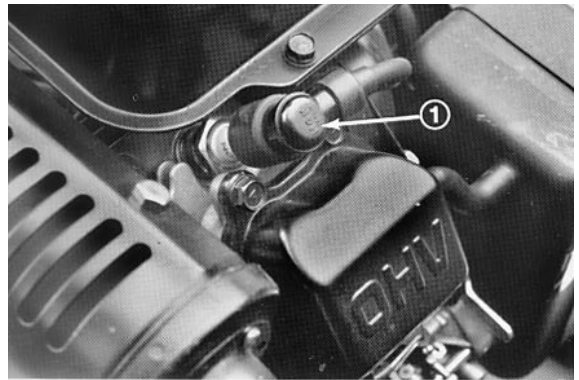

Figure 25
2. Clean around the spark plug and remove the plug from the cylinder head (Fig. 25)